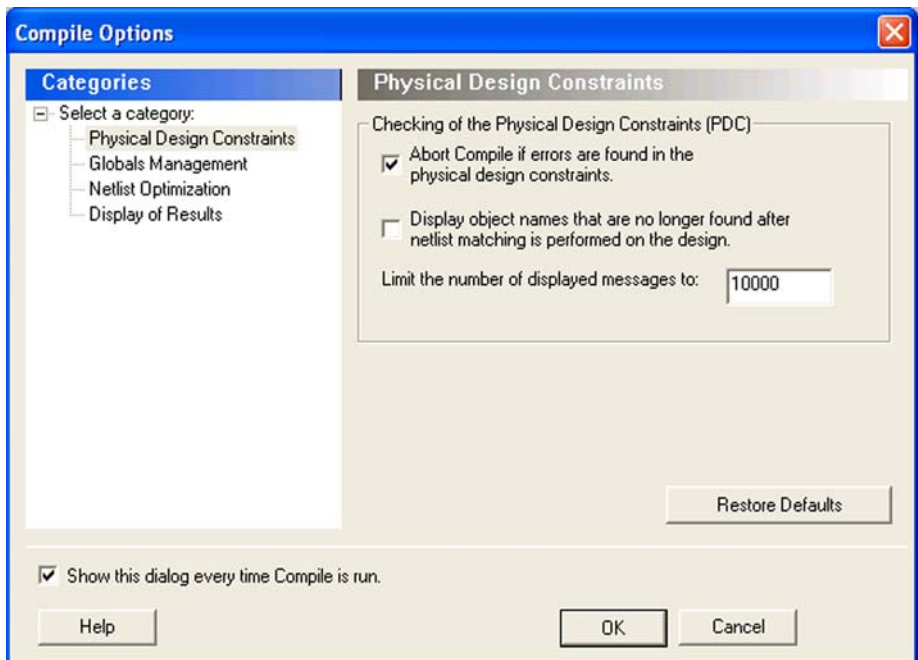

Figure 5-43. Compile Options Window
8. Click the **Compile** icon. Leave the default Compile settings (Figure 5-43) and click **OK**.